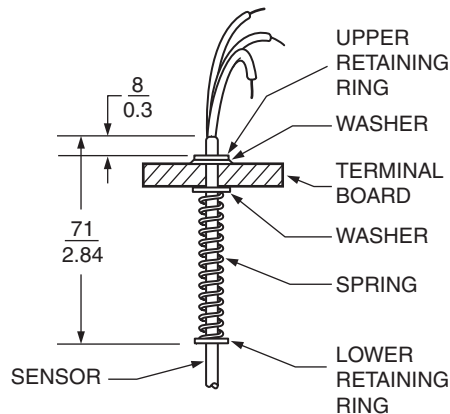

Figure 8. Sensor/Terminal Board Assembly
5. Install lower retaining ring on the sheath of the new thermocouple at the dimension shown in Figure 8.
7. Install upper retaining ring on the sheath of the new thermocouple at the dimension shown in Figure 8.